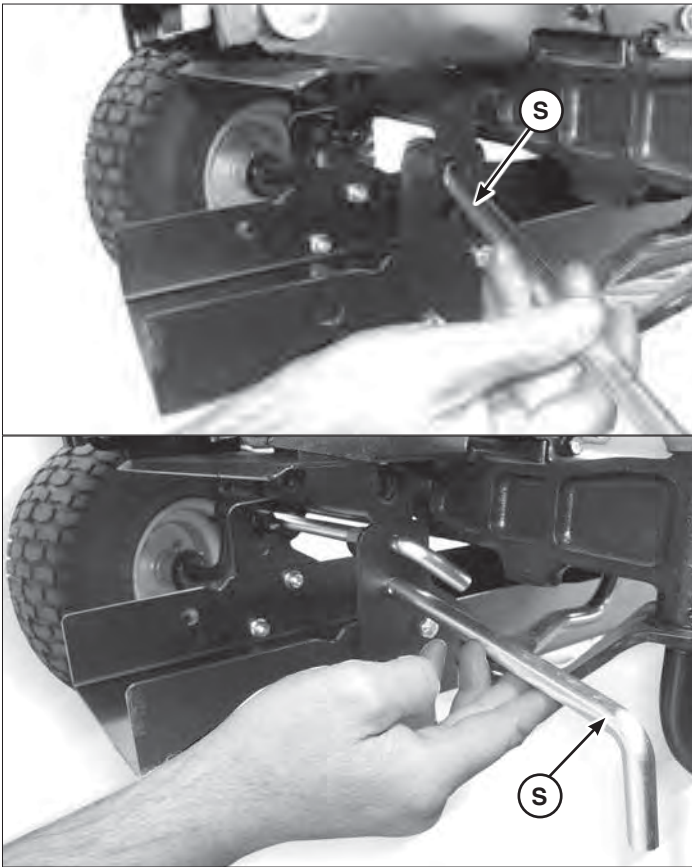

Figure 5
1. At the front of the tractor, align the top slot of the sub-frame assembly to the tractor frame "J" hooks. Install the the latch rod (**S**, Figure 5) through the slotted hole and "J" hooks.